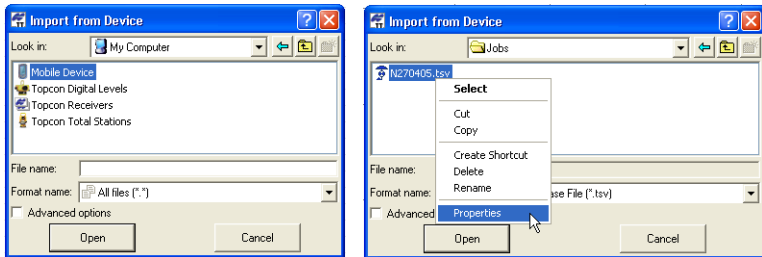

Figure 3-39. Connected Device(s) and Device Properties
3. Once Microsoft ActiveSync establishes a connection with the controller, double-click **Mobile Device** in the *Import from Device* dialog box (Figure 3-39).